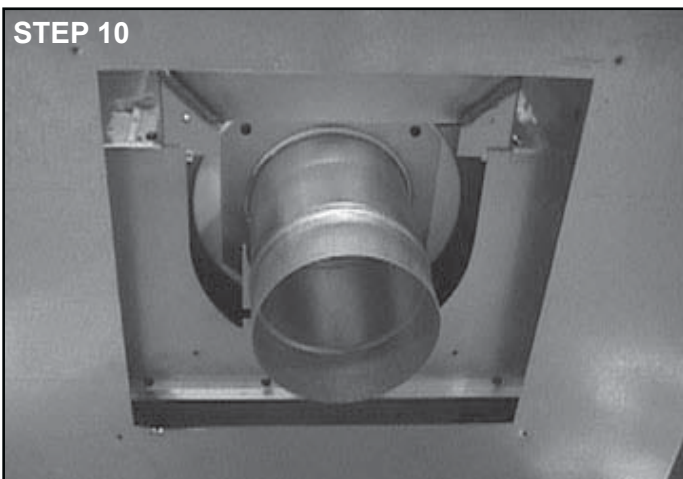

Figure 9.13 Place Inner Collar on Rear of Appliance
- Place inner collar (removed in Step 6) on appliance back and replace four screws to hold this collar in place. See Figure 9.13. Make sure insulation is still attached to the collar base!